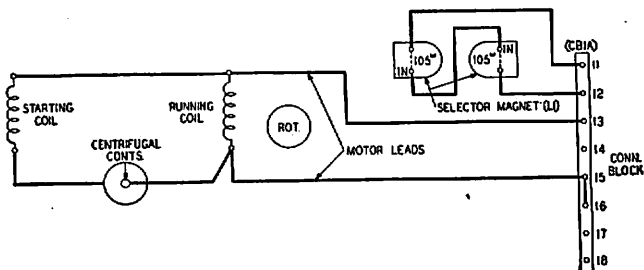

**Fig. 16—Nos. 14-AB and AF Typing Units
- Fig. 16—Nos. 14-AB and AF Typing Units